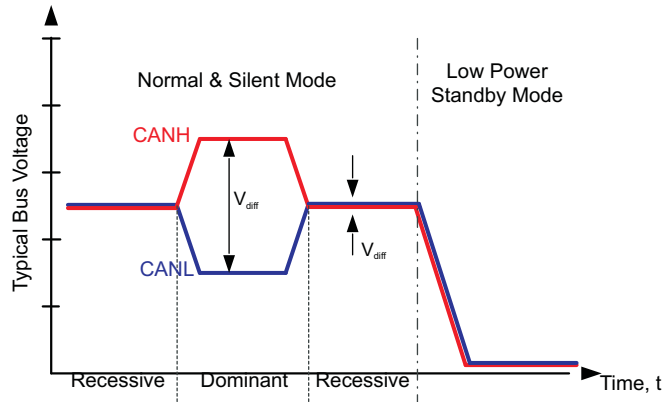
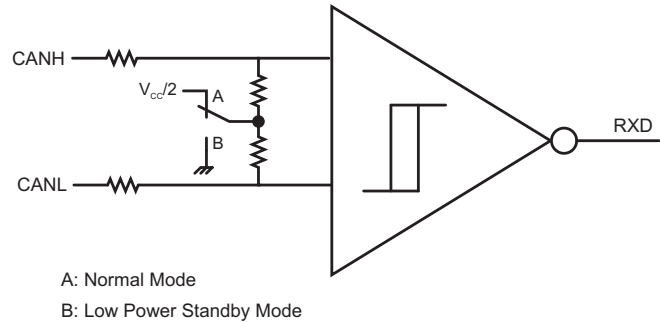

Figure 15. Bus States (Physical Bit Representation)
Figure 16. Simplified Common Mode Bias and Receiver Implementation
Both of the supply pins have undervoltage detection which place the device in forced standby mode to protect the bus during an undervoltage event on either the V_{CC} or V_{IO} supply pins. If V_{IO} is undervoltage the RXD pin is tri-stated and the device does not pass any wake-up signals from the bus to the RXD pin. Since the device is placed into forced standby mode the CAN bus pins have a common mode bias to ground protecting the CAN network, see Figure 15 and Figure 16.
- (1) See Figure 15 and Figure 16 for common mode bias information.
This is the low power mode of the device. It is selected by setting STB high. The CAN driver and receiver are turned off and bidirectional CAN communication is not possible. There is no wake up capability in the HVDA540, the RXD pin will remain recessive (high) while the device is in standby mode. This state is supplied via the V_{IO} supply, thus the V_{CC} (5V) supply may be turned off for additional power savings at the system level. The local protocol controller (MCU) should reactivate the device to normal mode to enable communication via the CAN bus. The 5 V (V_{CC}) supply needs to be reactivated by the local protocol controller to resume normal mode if it has been turned off for low-power standby operation. The CAN bus pins are weakly pulled to GND, see Figure 15 and Figure 16.
This is the low power mode of the device. It is selected by setting STB high. The CAN driver and main receiver are turned off and bidirectional CAN communication is not possible. The low power receiver and bus monitor, both supplied via the V_{IO} supply, are enabled to allow for RXD wake up requests via the CAN bus. The V_{CC} (5V) supply may be turned off for additional power savings at the system level. A wake up request will be output to RXD (driven low) for any dominant bus transmissions longer than the filter time t_{BUS} . The local protocol controller (MCU) should monitor RXD for transitions and then reactivate the device to normal mode based on the wake up request. The 5 V (V_{CC}) supply needs to be reactivated by the local protocol controller to resume normal mode if it has been turned off for low-power standby operation. The CAN bus pins are weakly pulled to GND, see Figure 15 and Figure 16.
- (1) H = high level, L = low level, X = irrelevant, Y = common mode bias to GND, Z = common mode bias to $V_{CC}/2$. See Figure 15 and Figure 16 for common mode bias information.
- (2) HVDA540/541 have internal pull up to V_{IO} on STB pin. If STB pin is open the pin will be pulled high and the device will be in standby mode.
- (3) HVDA542 has internal pulldown to GND on S pin. If S pin is open the pin will be pulled low and the device will be in normal mode.